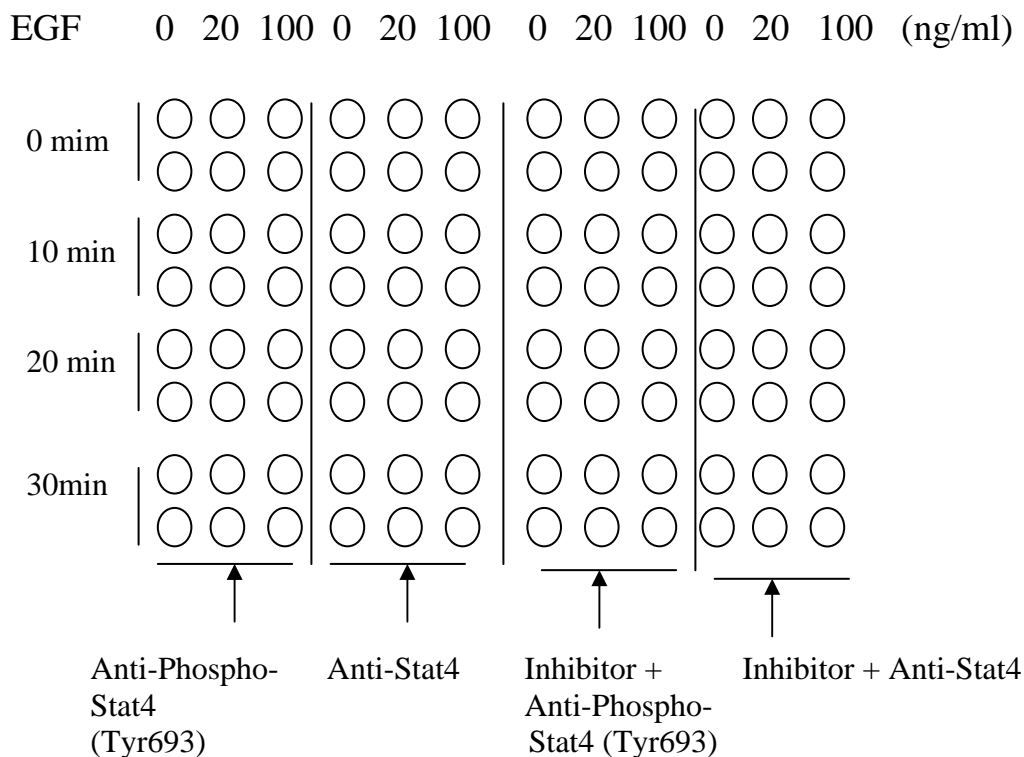

Fig. 2 Example of how to seed cells for RayBio® cell-based assay
1. Design your experiment. For example, see Fig 2 and 3.